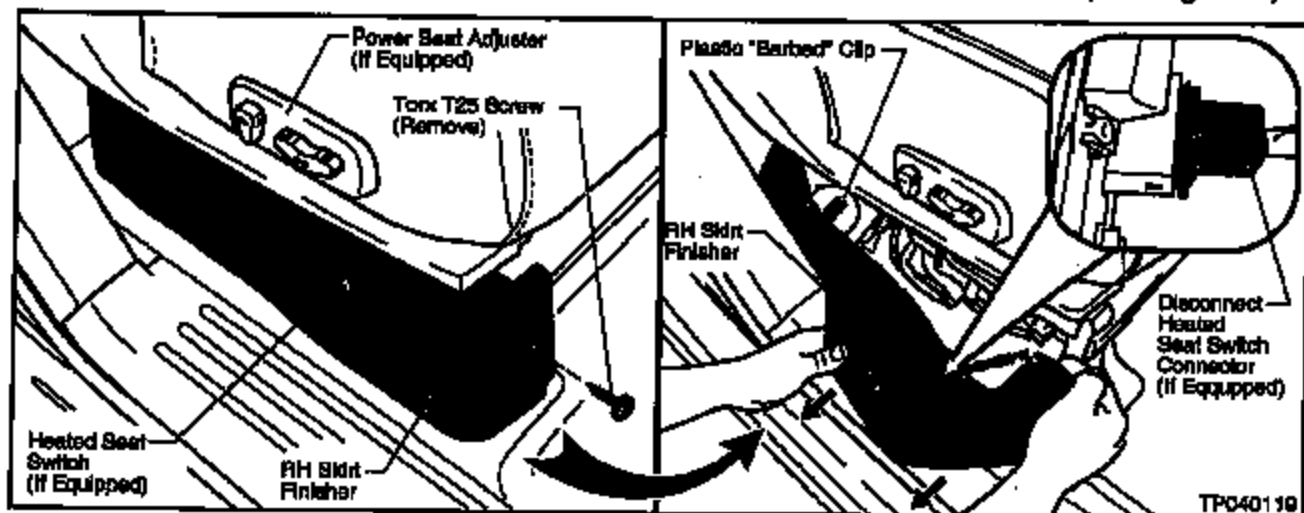

Figure 5
- a. Use a Torx T25 to remove the Screw at the front end of the Finisher (see Figure 5).
- b. Carefully pull out (towards the outside of the vehicle) on the Finisher to release any securing clips (see Figure 5).
- c. If equipped, disconnect the Heated Seat Switch Harness Connector (see Figure 5).